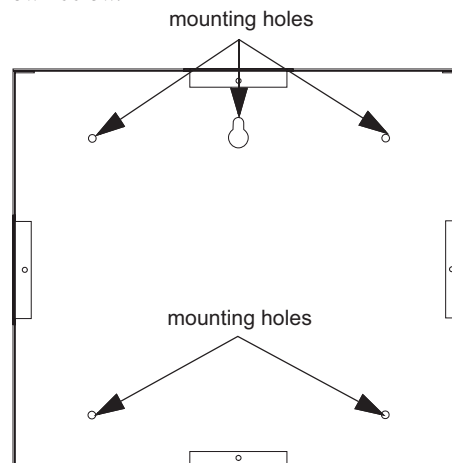

Figure 4.16 RA-100 Backbox Mounting
2. Mark and pre-drill hole in the wall for the center top keyhole mounting bolt. Refer to Figure 4.16 for mounting hole locations.